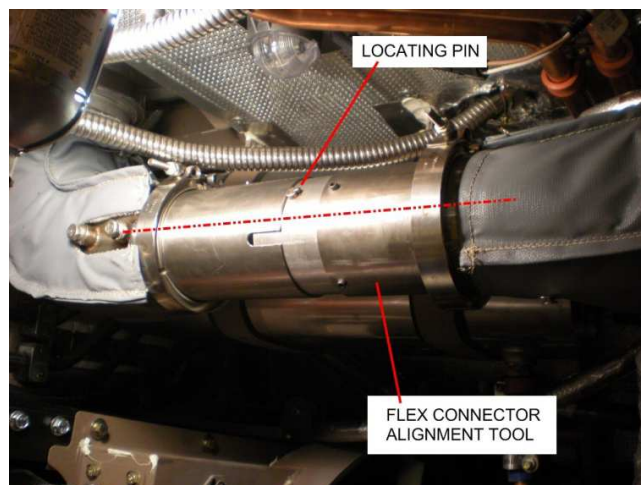

Figure 2: Flex Connector Alignment Tool
6. Rotate both ends of the alignment tool until it locks into the expanded position (locating pin should be out of the slot and in contact with edge of the slotted end of the tool). Make sure that the flanged end of the exhaust tubes are properly seated to the tool. See Figure 2.